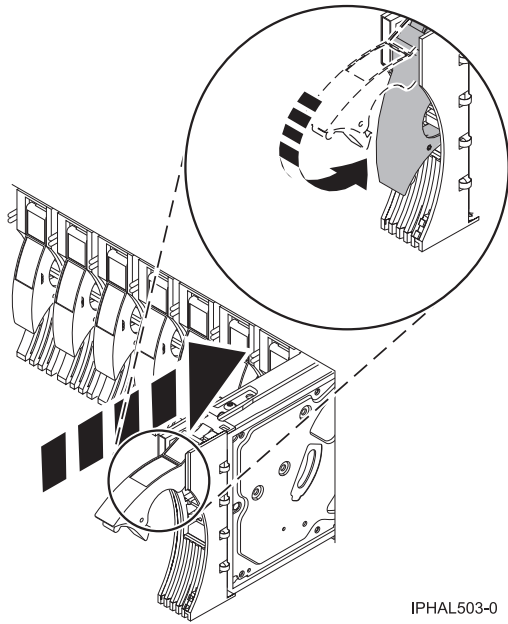

Figure 4. Installing a disk drive in a model
18. Slide the disk drive into the system unit until it stops, as shown in Figure 4 on page 15.